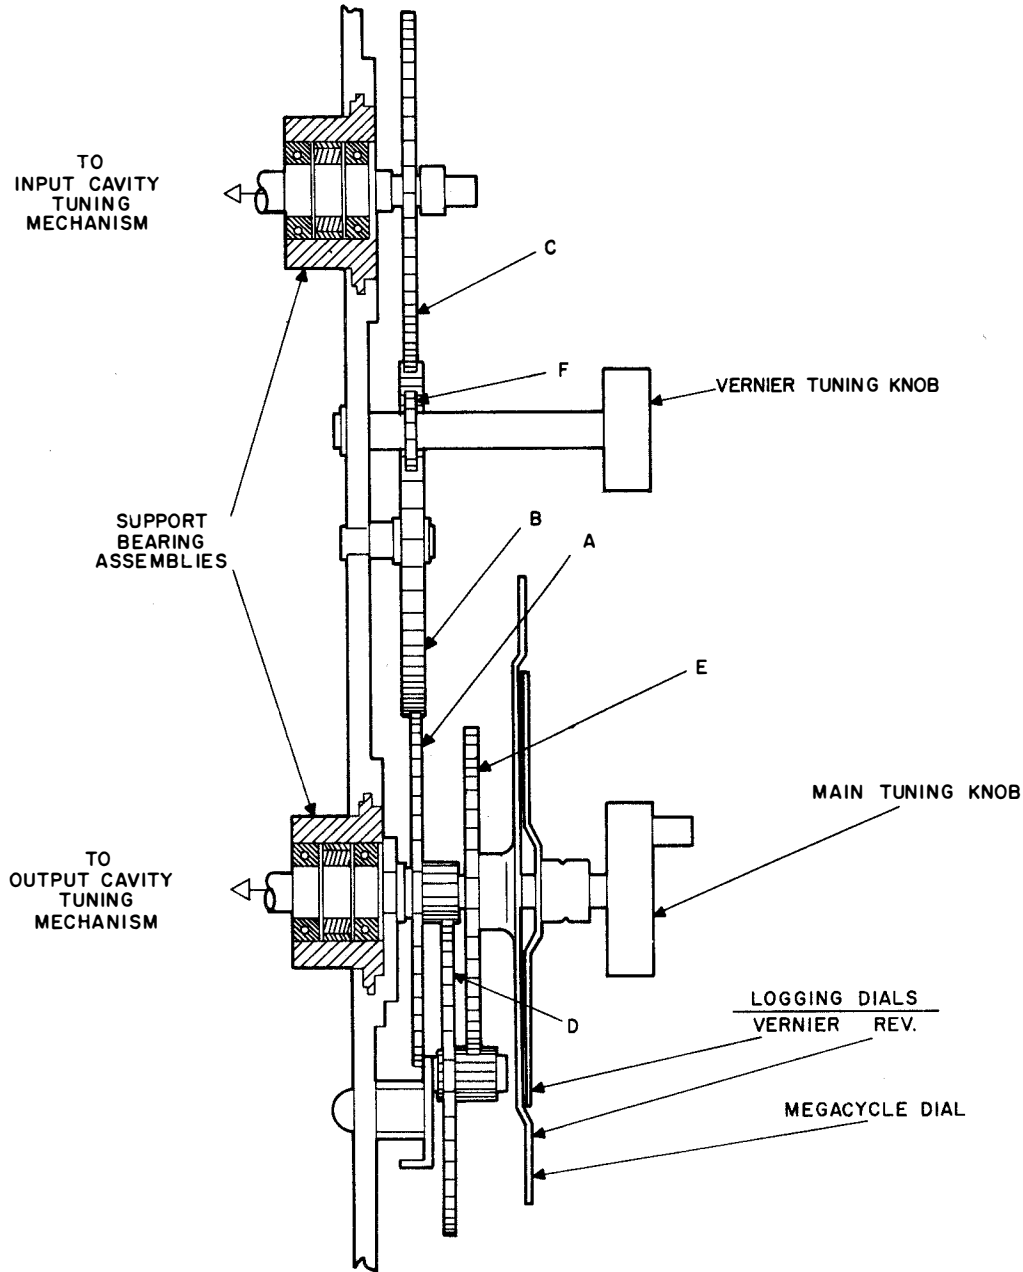

Figure 4-9. Tandem Cavity Gear Train Mechanism, Cross Section Diagram
(2) GEAR DRIVE AND TRACKING SYSTEM. - Figure 4-9 shows a cross section of one of the gear train mechanisms. The four tuning systems are identical. The driving gear train consists of support bearing assemblies for the rotatable drive tubes, and six gears, labeled A through F on the figure. The shaft from the coarse tuning control is directly connected to transfer gear A and to the rotatable tube in the output cavity. The large diameter part of transfer gear A couples to idler gear B, which in